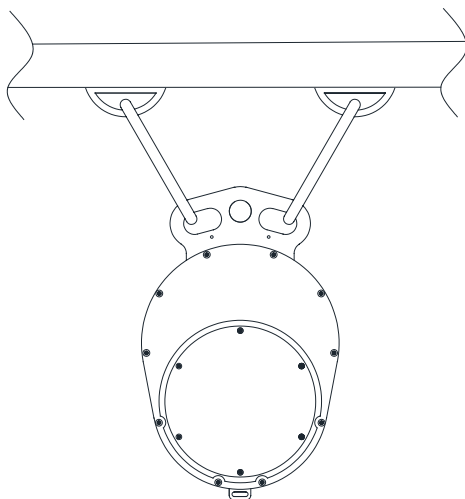

Figure 2
- The Perfect Descent Auto Belay must only be mounted using the Mounting Points at the top of the device. The Auto Belay must be mounted upright, with the nozzle pointing straight down, using one of the two methods in shown in figure 2.